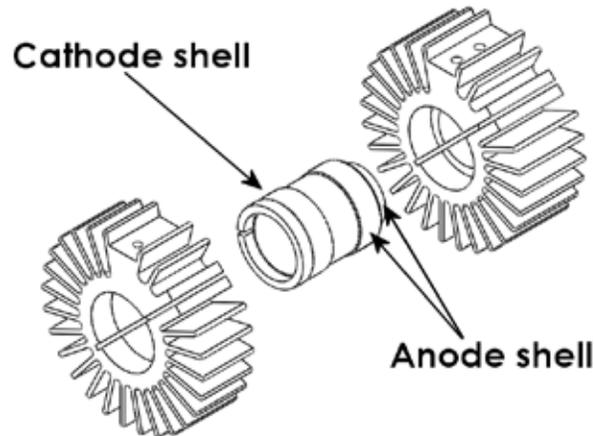
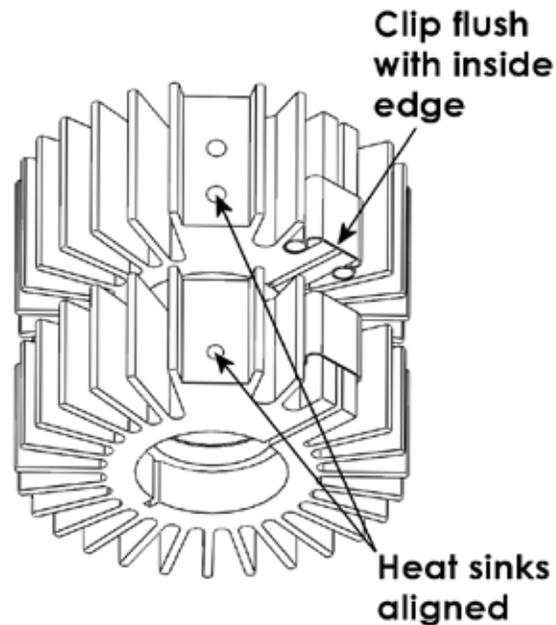

Figure 5-4. Bulb surfaces requiring they be covered with thermal compound.
Figure 5-5. Heat sink alignment and positioning of the retaining clips.
1. Without removing the protective cap from the new bulb, apply a thin, even layer of thermal compound to the side surfaces of the anode shell as shown in Figure 5-4.
3. Remove the protective cap from the new bulb. If there is no mounting ring attached, use the ring from the old bulb. Apply a thin, even layer of thermal compound on the cathode shell on the surface shown in Figure 5-4. Slide on the front heat sink, align it with the rear heat sink (Figure 5-5) and press on the retaining clip positioning it flush with the inside edge of the heat sink.